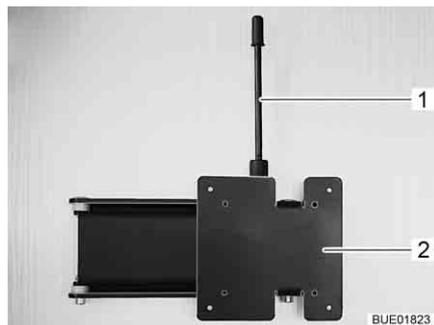

Fig. 98 Wall holder
- Push the release lever (Fig. 98,1) upwards and turn the holder (Fig. 98,2) with the flat screen to the desired position.